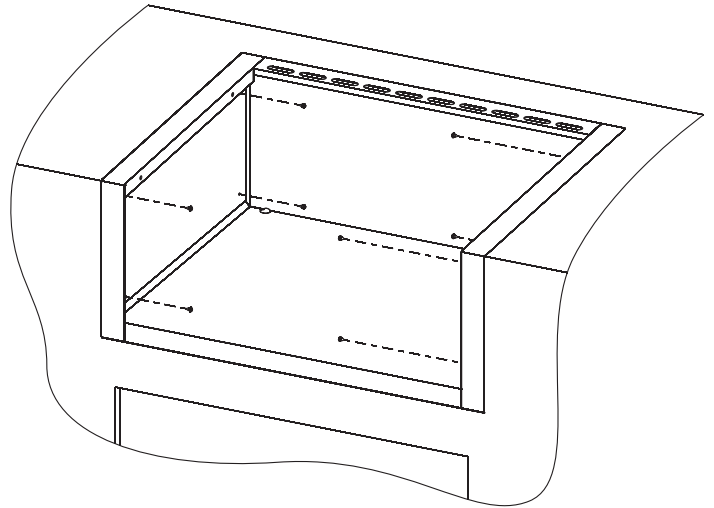

Figure 3
3. Secure the SBB surround to the enclosure using up to eight screws (not provided). See **Figure 3**.